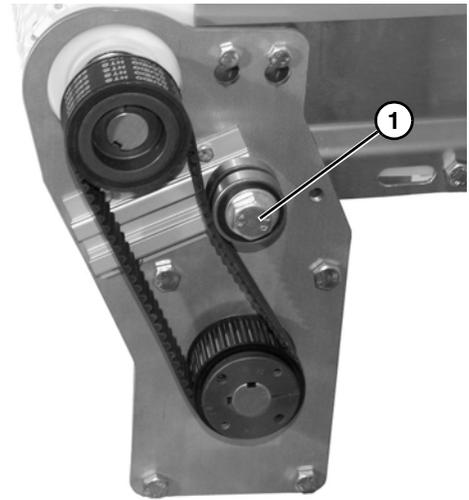

Figure 20
- Loosen tensioner (**Figure 20, item 1**).